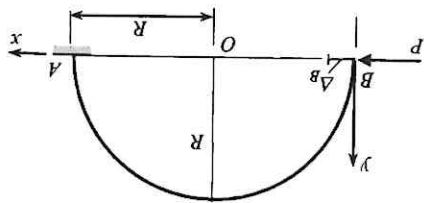

Fig. P6.14
6.14. A circular bar with central angle 80° is clamped at point A and free at point B . The bar is subjected to horizontal force P at the free end B (Fig. P6.14). The area A of cross section of the bar and moment of inertia I are constant. Calculate the horizontal displacement Δ_B at point B . All the three terms of Maxwell-Mohr's integral should be used. Estimate each term for the following data: cross section is rectangular ($h = 2b$), $h/R = 0.1$, the shear modulus $G = E/2(1 + \nu)$, the Poisson's coefficient $\nu = 0.25$ and coefficient $\mu = 1.2$.